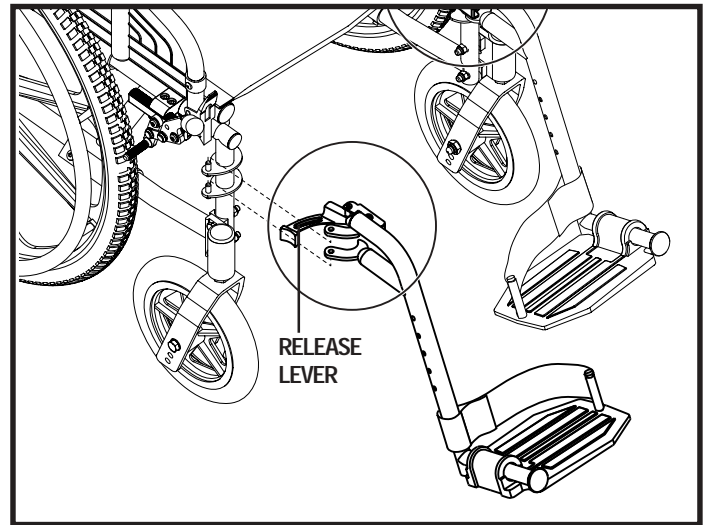

Figure 15. SFR Release
1. Push the release lever back. See figure 15